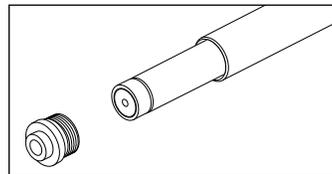

Fig. 4
2. Apply a small amount of thread locking fluid onto the end plug thread. Install threaded end plug (Fig. 4), using a 14mm wrench. Torque to 30 to 40 in-lb.